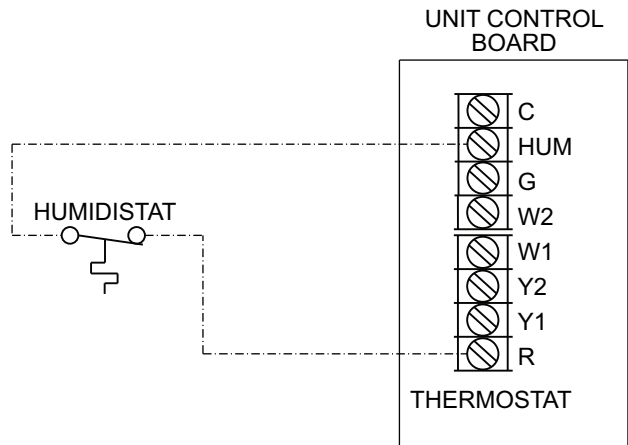

Fig. 38 — Humidistat Connections to UCB
3. Connect one of the leads from the 2-conductor cable to the HUM terminal on the UCB (Unit Control Board). Connect the other lead to the R terminal on the UCB. See Fig. 38.